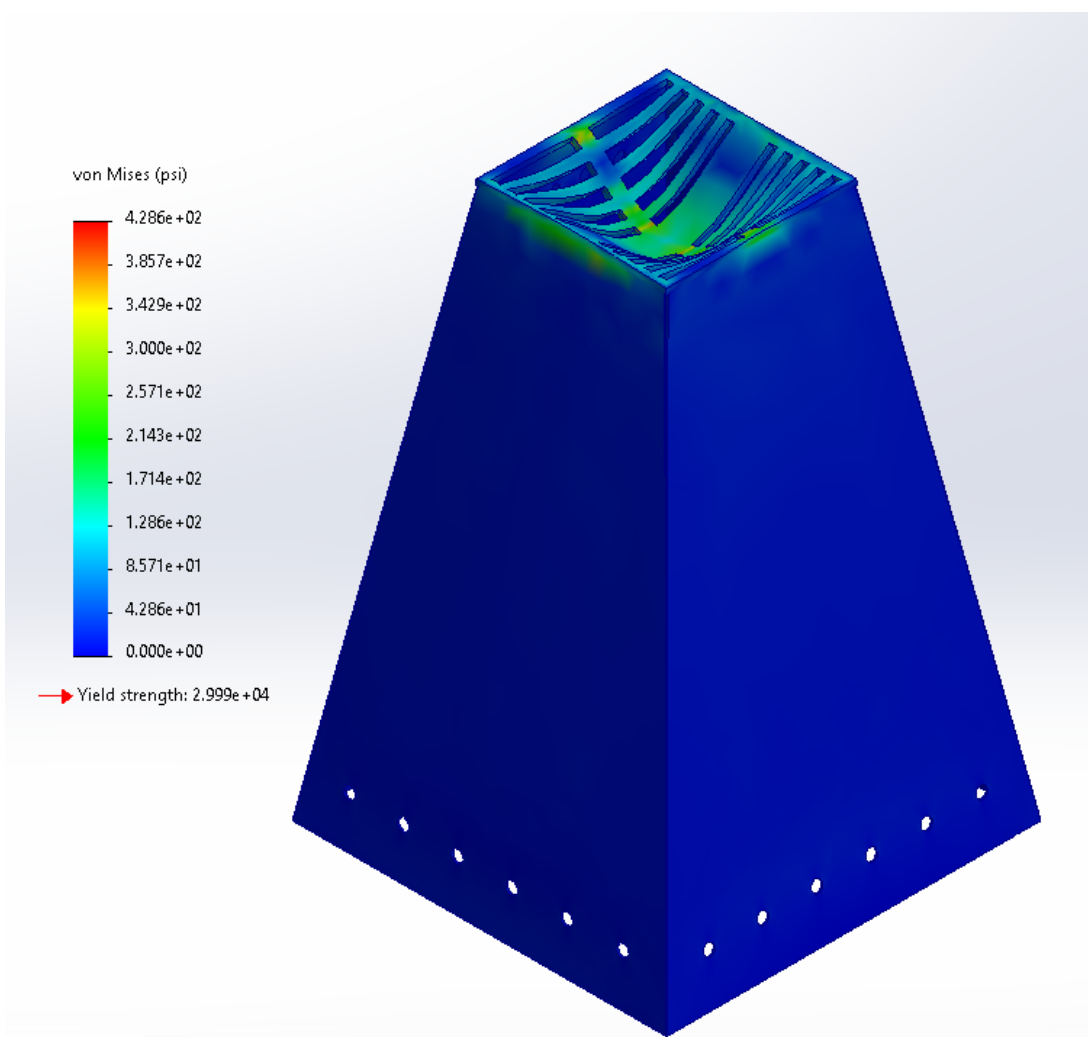

Figure 2. Static load on inner shell and outer shell.
- **Figure 2** depicts a static load of 100 lbs. at the top of stove.